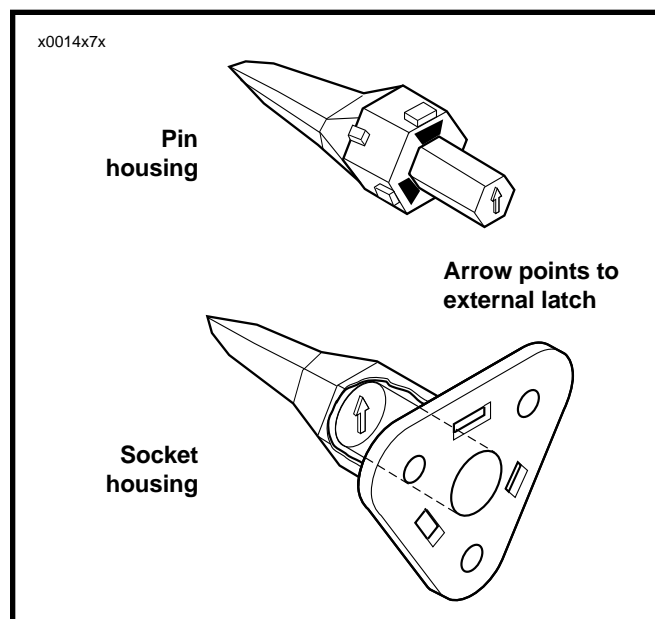

Figure 7-48. 3-pin Locking Wedge Orientation
- The conical secondary locking wedge of the 3-pin connector must be installed with the arrow pointing toward the external latch. See Figure 7-48.